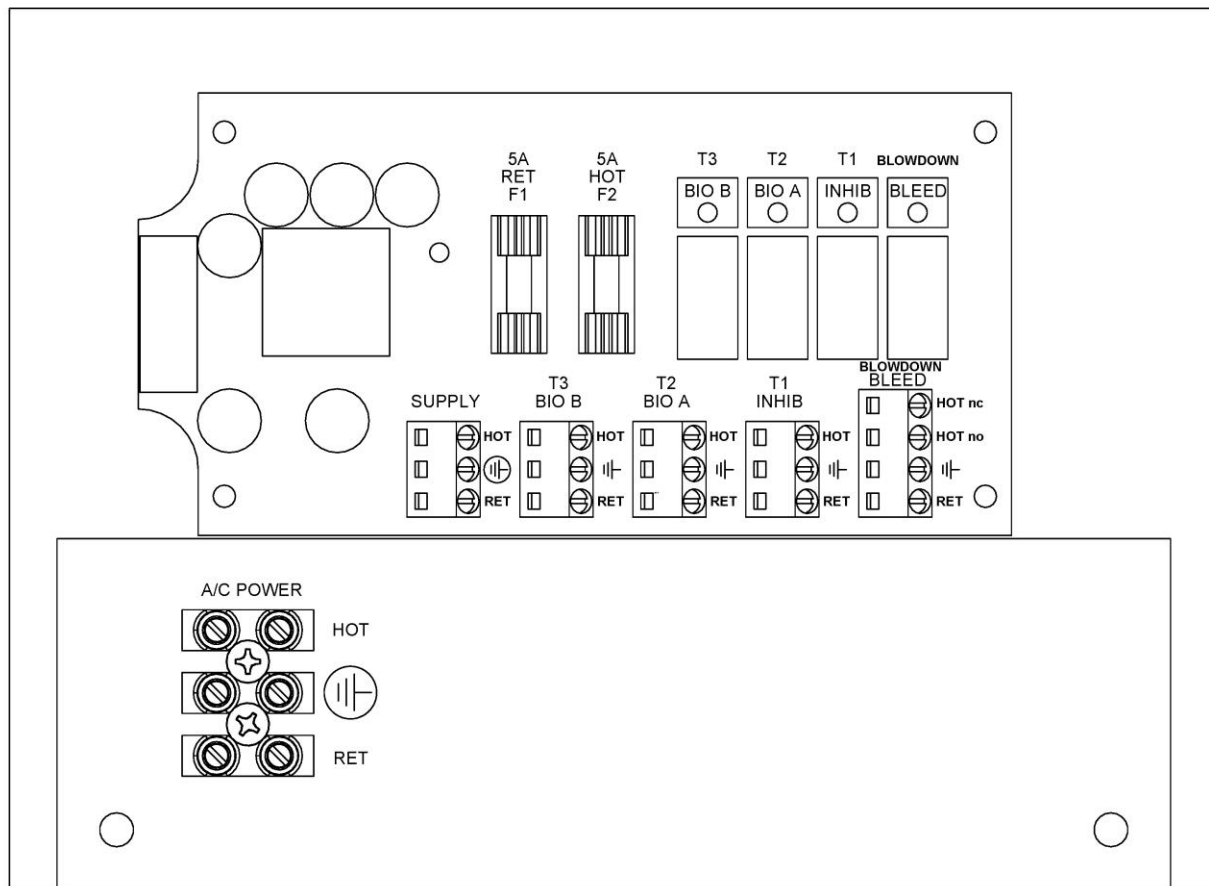

Fig. 6
The *MicroVision* electronic input circuitry is fuse protected on both the hot and neutral inputs using a replaceable five-amp fuse (*Fig .6*).
Conduit controllers have openings for conduit connections for hard wiring. (See Fig. 6) for input and output power connections. Use only 18 AWG (1,2 mm²) stranded wire for conduit power and load connections. Supply (input) A/C power is connected via the terminal block located on the back panel marked "A/C Power" (Fig. 6). The top part of this terminal block is removable to allow for easy access to the connector's three (3) screws.